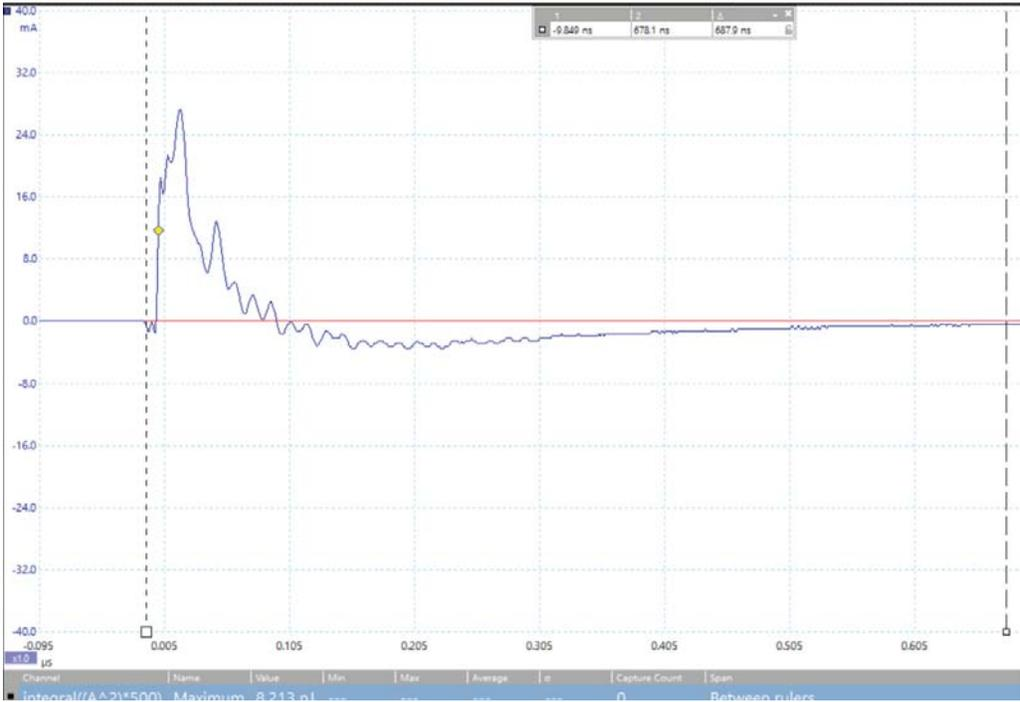

Figure 14: Screenshot of the PicoScope software measuring the energy.
- K. Using the mouse, drag the left scope cursor to the left of the discharge waveform and the right cursor to the point where the waveform decays to zero. *Note: If the waveform dips below the zero line place the cursor at the point where it crosses the zero line from the second time (Figure 14).*